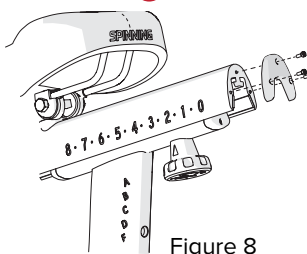

Figure 8
3. Reinstall the seat post and attach the seat slider end cap **8** using 3 bolts **3** (Figure 8) and fully tighten with a hex key. **5**